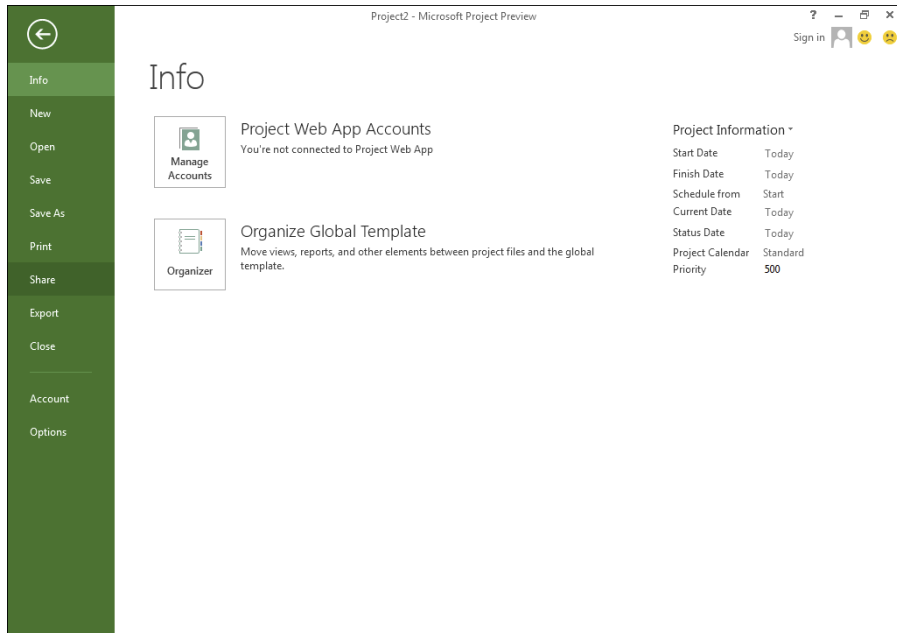

Figure 2-3:
- ✓ **Choose the File→Info command.** In the Project Information section on the right side of the screen, as shown in Figure 2-3, you can enter the start, finish, current, and status dates for the project.